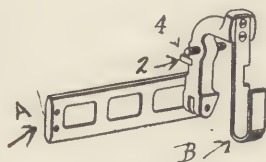
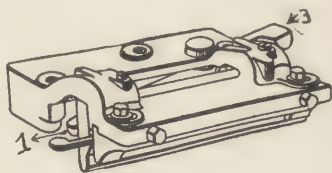

FIG. 26.
FIG. 27.
"All right," replied the Machinist; "I'll try. You see this screw in the bottom of the first elevator slide? That is an adjustment for regulating the height to which the elevator can rise when carrying a line of matrices to the second elevator. The screw must be set so that the guide-block on the elevator jaw will come in line with the groove in the guide-block on the end of the transfer carriage (*A*, Fig. 26). The transfer carriage is drawn to the right by the coil spring in the hollow frame of the machine, back of the assembler. The lever which operates the carriage has a roller which follows the surface of cam No. 10. This roller has an eccentric pin, the same as the line-delivery carriage roller has, and when this eccentric is properly set it
will cause the shifter finger (*B*, Fig. 26) to retreat far enough, after transferring a line of matrices, to allow the trip lever (1) in the elevator guide (Fig. 27) to drop in front of the projection (2) on the transfer carriage (Fig. 26), so as to lock it in that position. Now the transfer carriage can only be released by the latch being lifted, which the second elevator does when it comes down. This is accomplished by the adjusting screw on the arm striking on top of the trip lever (3,
Fig. 27). This lifts the other end (1) of the trip lever, which normally lies in the path of the projection (2) on the transfer carriage, and permits the transfer to be made.
"That is usually caused by the screw (4) in the shifter finger (*B*, Fig. 26) being turned in so far that it prevents the two shifters from coming close enough together to enable the pawl to drop over the ears of the spacebands. It may be, though, that one side of the intermediate spaceband channel is higher than the other and lets the bands swing around. If that is the case, the whole channel must be taken off, the dowel pins removed and the low side raised so a band when hanging from the rails is supported equally by both ears."
The second-elevator transfer carriage (Fig. 26) was next placed in its track and connected to the lever. Then the governor was fastened in an upright position and connected with $\frac{3}{8}$ -inch rubber hose as shown in Fig. 6.